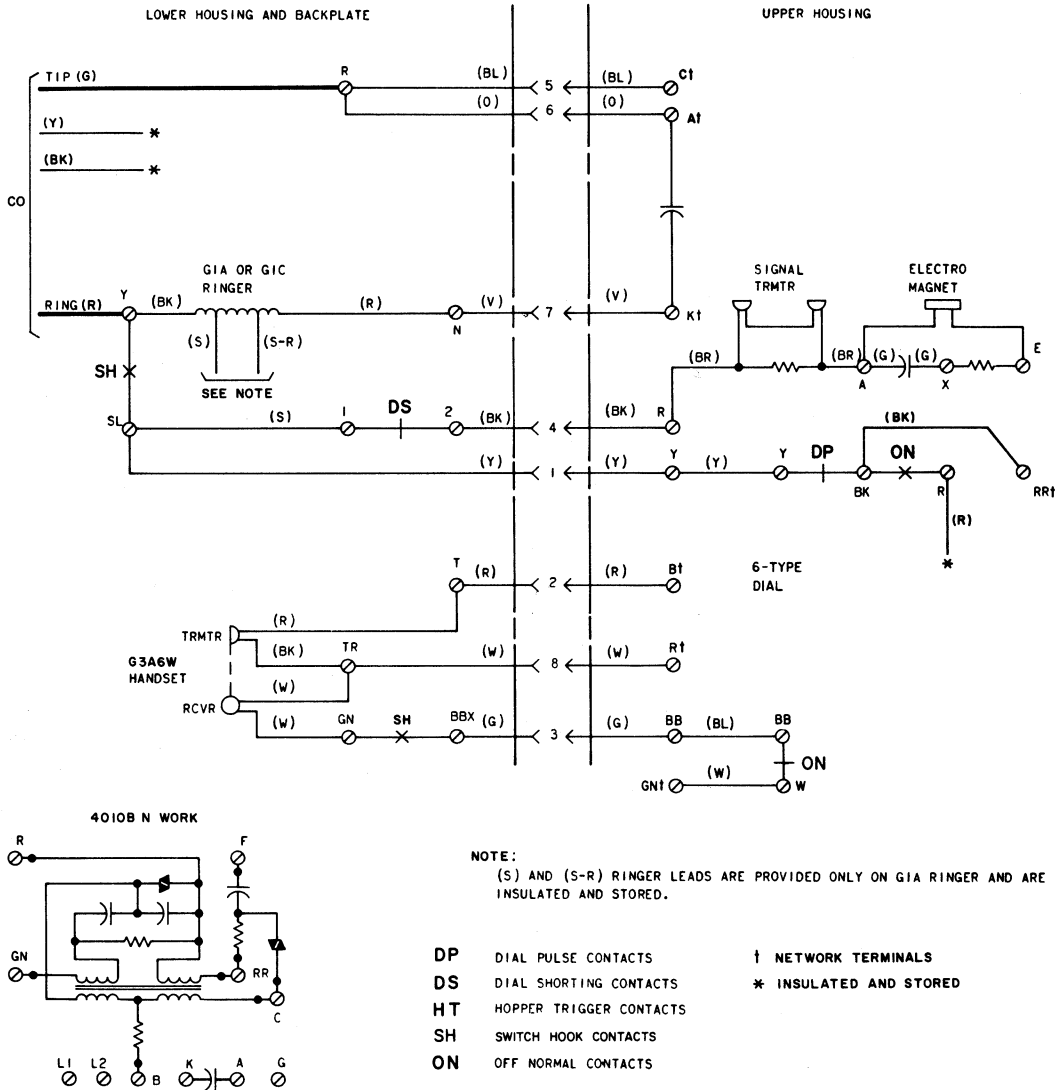

Fig. 5—D-180574 Coin Decorator Telephone Set—Connections
3.04 Connect Tip and Ring to set per Fig. 5.
5.01 Refer to Fig. 5 for complete connection diagram.